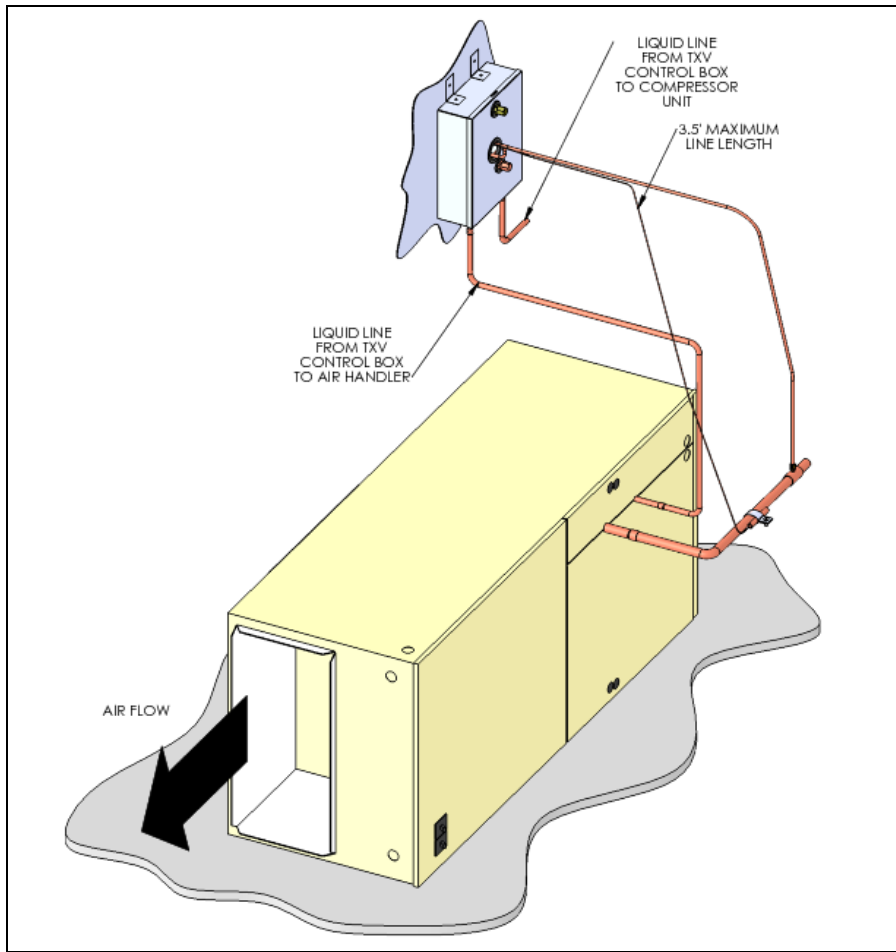

Figure 4c. TXV Control Installed next to Horizontal Left Flow Air Handler
For horizontal air handler applications (left or right air flow), the TXV control box is field positioned external to the air handler and can be fastened to (1) a cabinet side surface or (2) on a solid mounting surface immediately adjacent to the air handler as shown typically in Figures 4c and 4d.